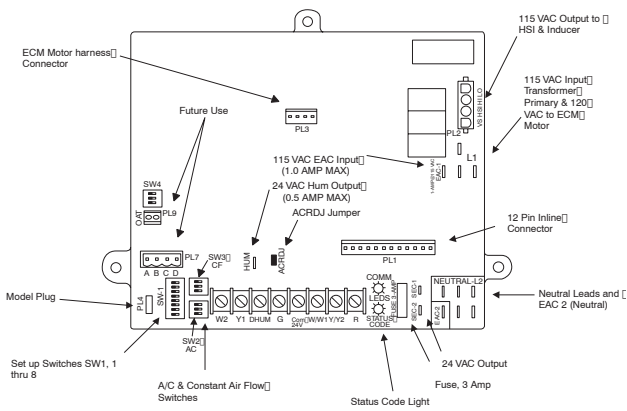

Fig. 64 - Furnace Control for Variable Speed Condensing Furnace (HK42FZ02)
- Turn Setup Switch SW1-2 on furnace control ON. (see Fig. 64.)